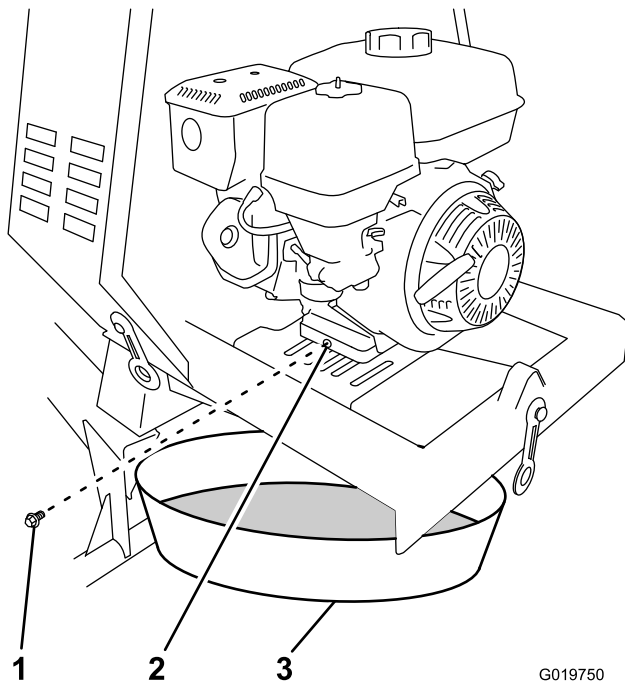

Figure 41
3. Place a drain pan under the oil drain hole of the engine (Figure 41).
4. Remove the drain plug and catch the oil in the oil drain pan (Figure 41).
5. When the oil has drained completely, install the drain plug with a new washer (Figure 41).